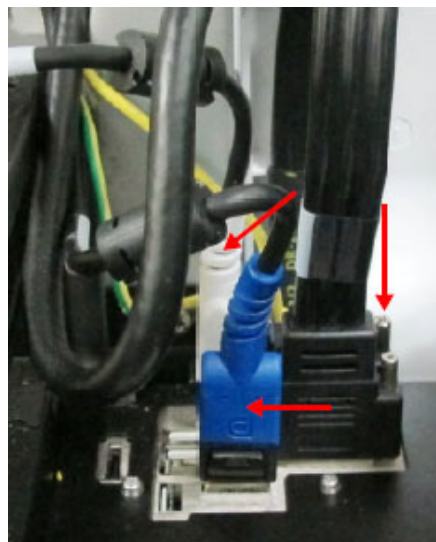

Figure 8-142 Disconnect Cables from Internal BIF Panel
3.) Disconnect all cables from the Internal BIF Panel located above the Cabinet Cage Module - see Figure 8-142.